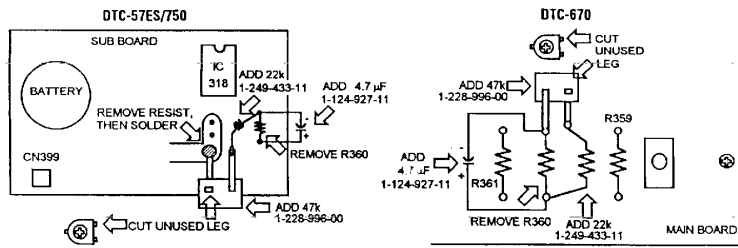

Figure 5
1. Remove R360 (see Figure 5).
2. Add a 22K ohm resistor and a 47K ohm potentiometer and a 4.7uF capacitor as shown in Figure 5.